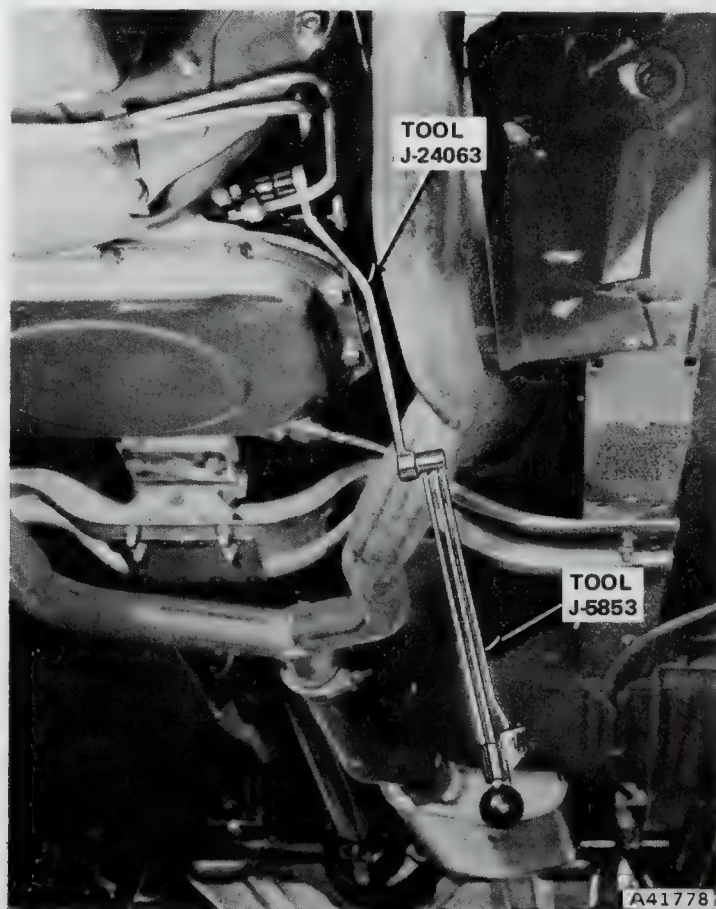

Fig. 2C-10 Front Band Adjustment
The front band adjusting screw is located on the left side of the transmission case just above the manual valve and throttle lever control levers (fig. 2C-10).
- (1) Loosen adjusting screw locknut and back off locknut five turns.
- (2) Check adjusting screw rotation. Screw must turn freely in case.
- (3) Tighten adjusting screw to 36 inch-pounds (4.07 Nm) torque using Torque Wrench J-5853, Adapter Tool J-24063, and a 5/16-inch square socket (fig. 2C-9).